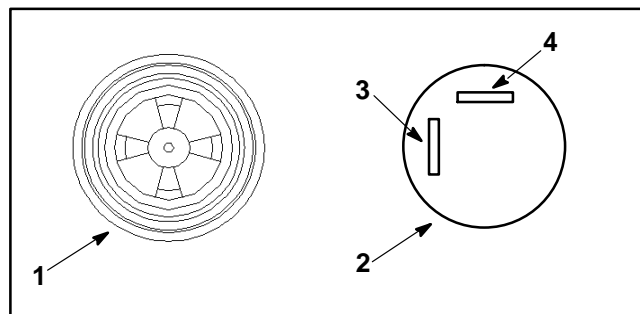

Figure 17
1. Isolate alarm from the circuit. Correctly connect 12VDC source to the terminals (Fig. 17).